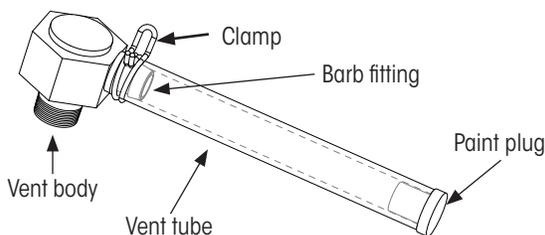
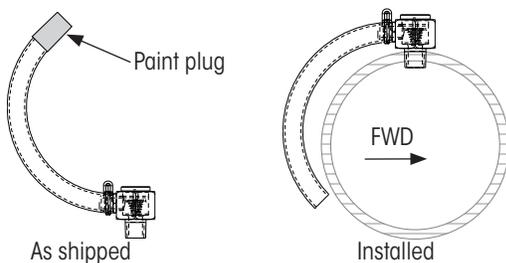

Figure 17: INTRAAX®/VANTRAAX®/ULTRA-K® axle vent assembly
Figure 18: TRLAXLE axle vent
NOTE: As shown in Figure 18, the axle vent for TRLAXLE® uses a curved tube that is shipped pointing up for ease of installation.
3. If present, **remove and discard** paint plug, Figure 17 and Figure 18.